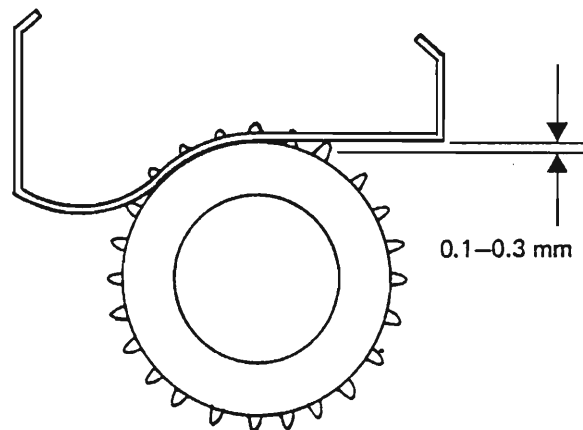

Fig. 6.7 Thrust pad clearance
- d) When fitting a new thrust pad, check the clearance between the thrust pad and the sprocket wheel hub (Fig. 6.7) as follows: